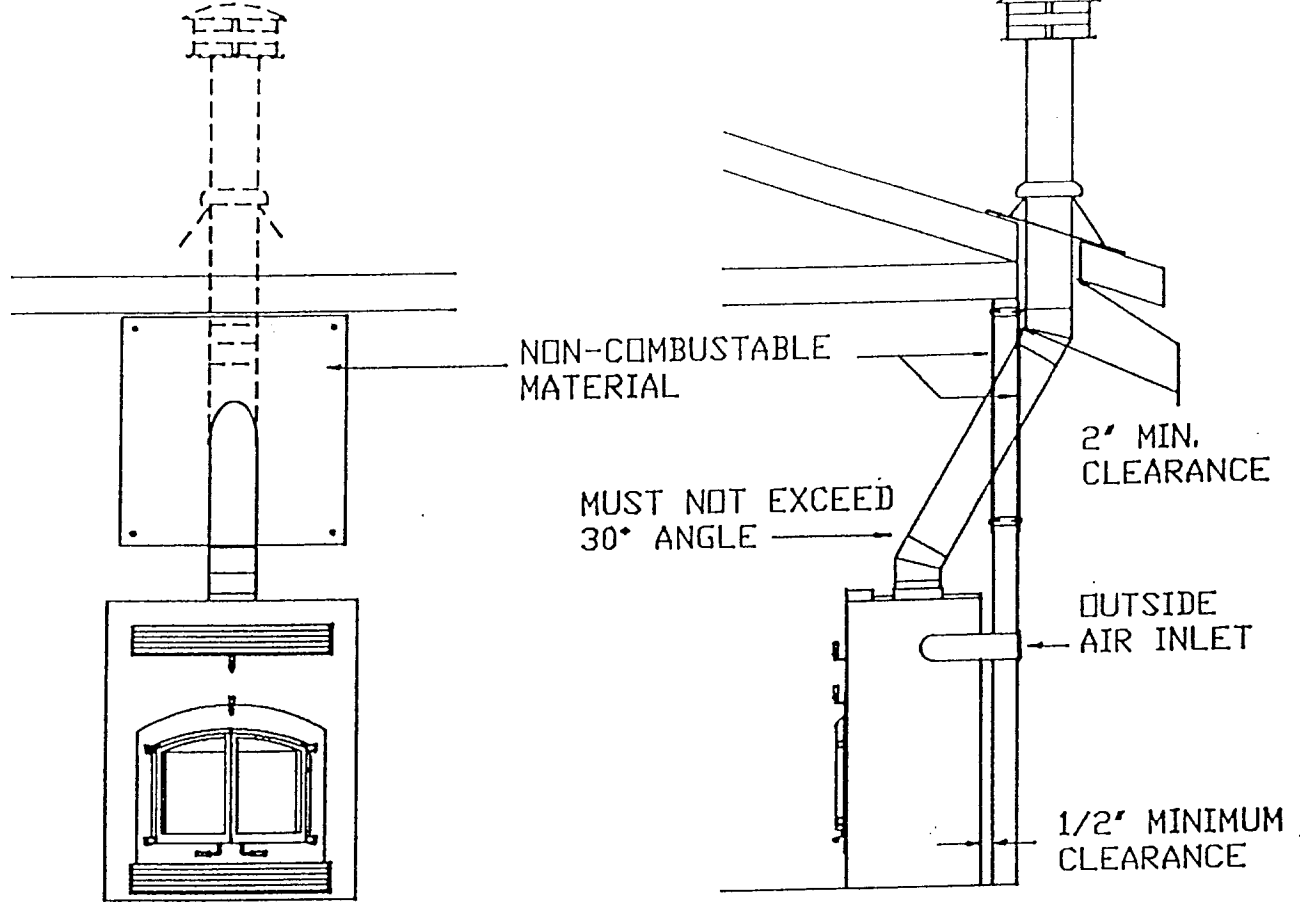

FIG. 5A
1. Install the chimney in accordance to the chimney manufacturer's installation instructions. The chimney needs to be a minimum of 10' overall, with a minimum of 3' above the roof line and 2' above the nearest peak. See Figure 5A & B.